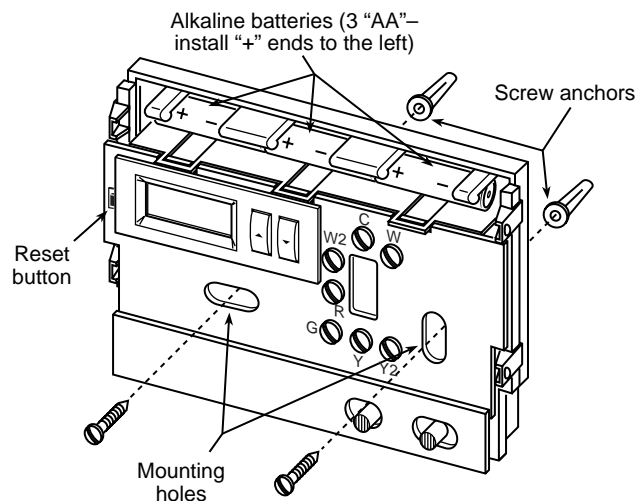

Figure 2. Thermostat base
If **LOW BATTERY** is displayed, the batteries are low and should be replaced with fresh "AA" Energizer® alkaline batteries. To replace batteries, install the batteries along the top of the base (see fig. 2). The batteries must be installed with the positive (+) ends to the left.
4. Fasten the base loosely to the wall, as shown in fig. 2, using two mounting screws. Place a level against the bottom of the base, adjust until level, and then tighten the screws. (Leveling is for appearance only and will not affect thermostat operation.) If you are using existing mounting holes, or if the holes drilled are too large and do not allow you to tighten the base snugly, use plastic screw anchors to secure the base.
4. Pressing the hardware RESET button (see Fig. 2) will return the offset to zero.
If your thermostat's display is frozen or displaying incorrectly, the thermostat may have been affected by static discharge or voltage variations. If this happens, press the RESET button (see fig. 2, page 2 for the location of the button). If pressing the RESET button does not correct the problem, contact a qualified service technician.